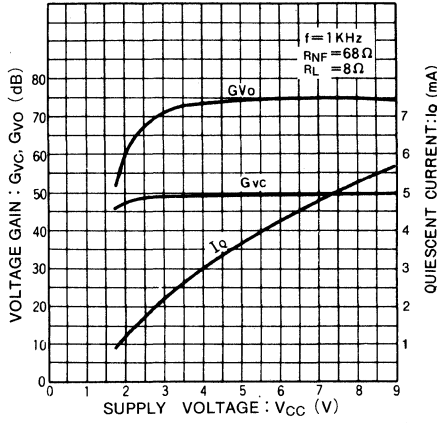

Fig.1 無信号時電流—電源電圧特性
- 2) Excellent low-voltage characteristics (starting voltage $< 2V$) (See Fig. 1).